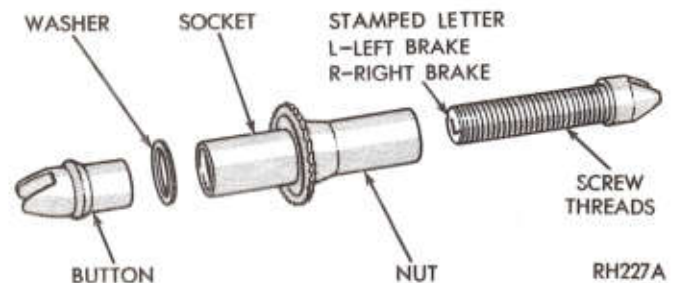

Fig. 8—Adjuster Screw Assembly
socket and washer (Fig. 8). Replace adjuster screw assembly if corrosion of any part inhibits very free operation.
(7) Install adjusting star wheel assembly between primary and secondary shoes, with star wheel next to secondary shoe (Fig. 8). The left star wheel adjusting stud end is stamped "L" (indicating its position on the vehicle) and the star wheel is cadmium plated. The right star wheel is black and the adjusting stud end is stamped "R". Install shoe-to-shoe spring between shoes (Figs. 1 and 2). Engage primary shoe first with coil forward, opposite adjuster lever (Fig. 1).
(8) Install adjusting lever spring over pivot pin on shoe web. Install adjusting lever under spring and over pivot pin. Slide lever slightly rearward to lock in position.